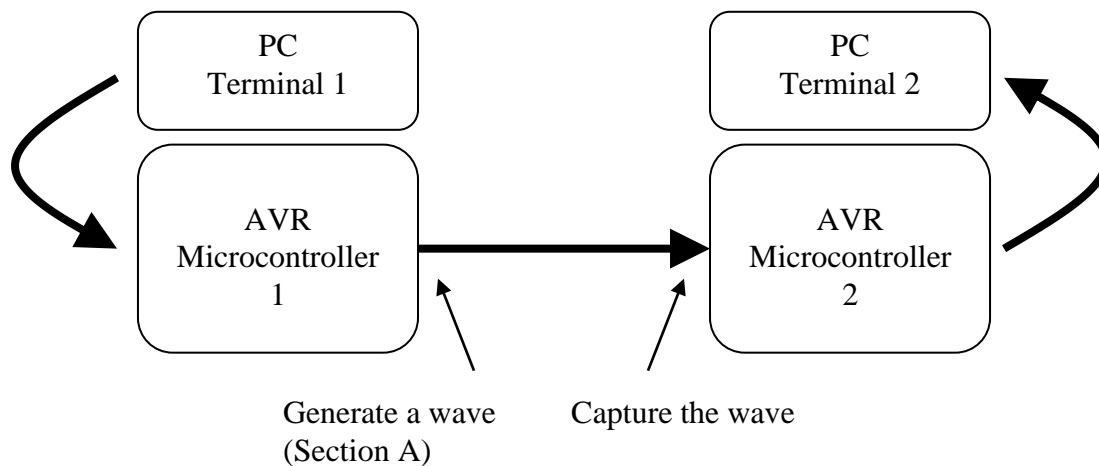

Figure 1
1. Write a C program in AVR microcontroller 1 to get an integer from PC terminal 1 (e.g., Tera Term) and set it as the pulse width (in clock cycles) of a wave generated by AVR microcontroller 1 (see Figure 1). The frequency of the wave should be 500 Hz. The received integer should be displayed on PC terminal 1. It means, after you receive the integer from the keyboard through PC terminal 1, you should send the integer to PC terminal 1 so that it can be displayed on the screen. You can assume that the integer must be between 10 and 99.